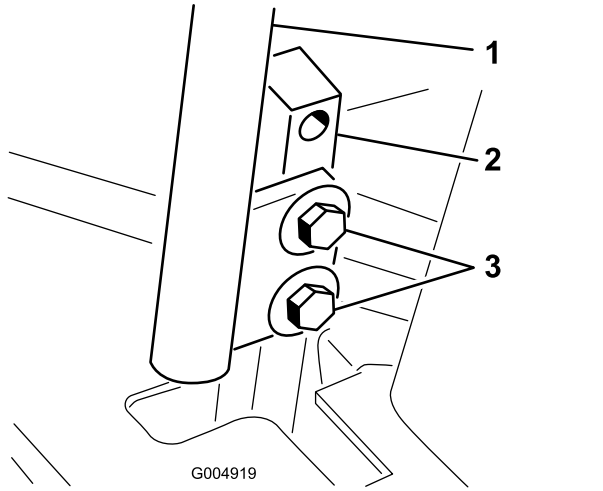

Figure 54
3. Loosen the bolts securing the control levers (Figure 54).